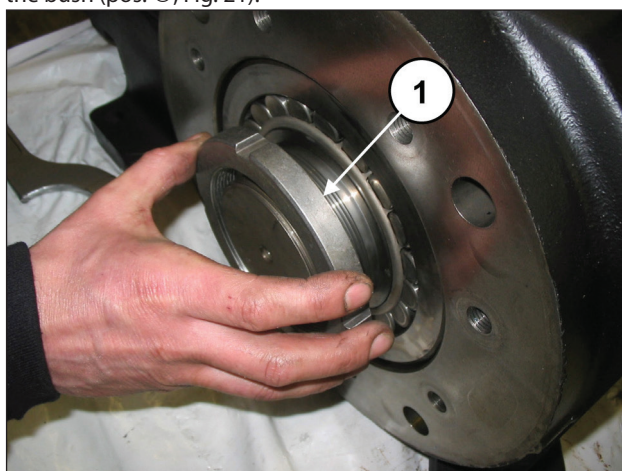
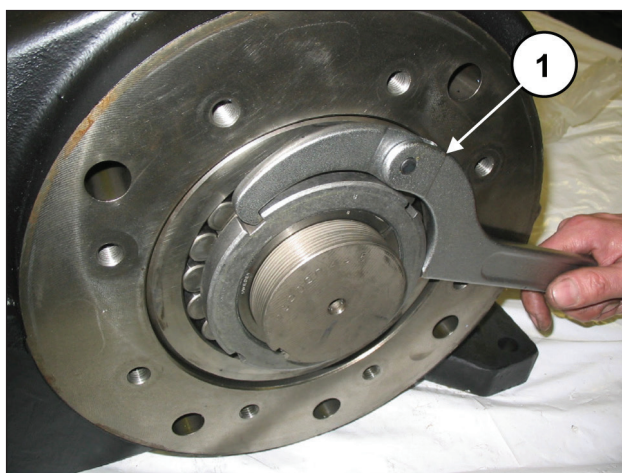

Fig. 20
Fig. 21
Screw a ring nut type SKF KM19 onto the pressure bush (pos. ①, Fig. 20), then, using an appropriate wrench, loosen the bush (pos. ①, Fig. 21).